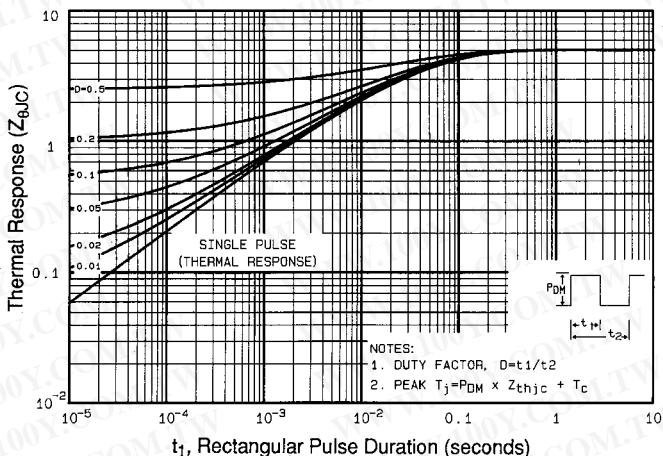

Fig 11. Maximum Effective Transient Thermal Impedance, Junction-to-Case
① Repetitive rating; pulse width limited by max. junction temperature (See Figure 11)
③ $I_{\text{SD}} \leq 5.6\text{A}$, $dI/dt \leq 140\text{A}/\mu\text{s}$, $V_{\text{DD}} \leq V_{(\text{BR})\text{DSS}}$, $T_J \leq 150^\circ\text{C}$
② $V_{\text{DD}}=25\text{V}$, starting $T_J=25^\circ\text{C}$, $L=8.1\text{mH}$